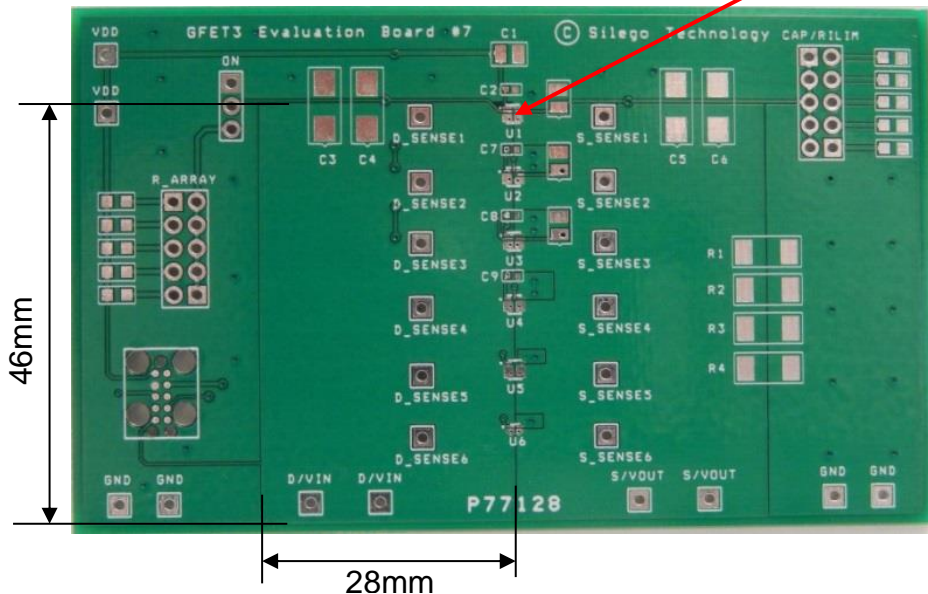

Figure 3. SLG59M1598V Evaluation Test Board
2.3. The D/VIN and S/VOUT pins carry significant current. Please note how the D/VIN and S/VOUT pads are placed directly on the power planes in Figure 3, which minimizes the RDS(ON) associated with long, narrow traces. The D/VIN and S/VOUT pins dissipate most of the heat generated during high-load current condition. The layout shown in Figure 3 is illustrating a proper solution for heat to transfer as efficiently as possible out of the device.